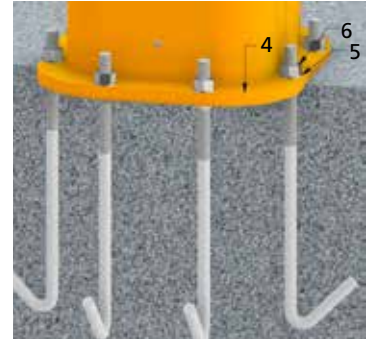
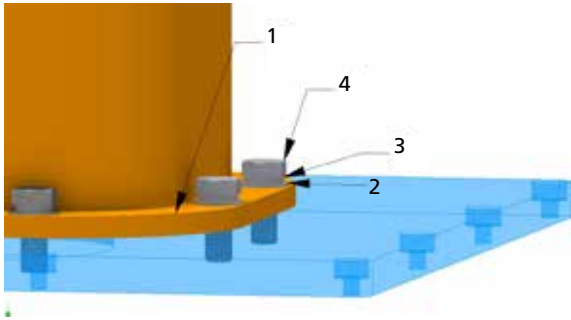

fig.27
fig.28
- Erect the column without arm, lifting it in the upper part with suitable equipment after having slung it as indicated, mount it on the foundation frame positioning base plate 4 correctly and approaching the nuts 6 after placing the relativ flat washers 5 (fig. 27).
2. Set up the pillar without the arm, lifting it by the upper part with appropriate equipment having put it in the sling as shown, assemble it on the counterplate positioning the base plate 4 correctly and secure it using the special Kit supplied with the counterplate (fig. 28) (proceed with step 4).
Donati Sollevamenti SRL shall not be held liable for any fixings other than those indicated in fig. 27 and fig. 28.